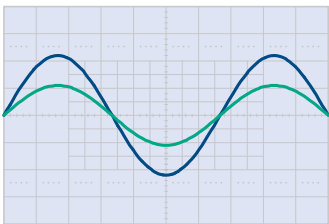

Fig. 1 - Unity Power Factor
To provide testing under the broadest range of loading conditions, the 4600 Series AC Electronic Load offers 7 different emulation modes. Constant Current (CC) mode provides current to be drawn constantly, making it suitable for non-linear, linear, and regulation loading. Constant Resistance (CR) mode allows the electronic load to emulate a power resistor. Constant Voltage (CV) allows emulating a shunt regulator. Constant Power (CP) mode emulates a constant-power load such as a switching power supply. Short Circuit (SC) mode allows the electronic load to test the UUT's short circuit protection capability. Unity Power Factor (UPF) (*Fig. 1*) mode brings power factor to unity, useful when the input voltage is non-sinusoidal. The new Complex Non-Linear Waveform (CNL) mode allows the user to define the waveform to prevent UUT current over-stressing in the event of a voltage collapse. These comprehensive capabilities provide the user almost every conceivable AC loading condition possible.